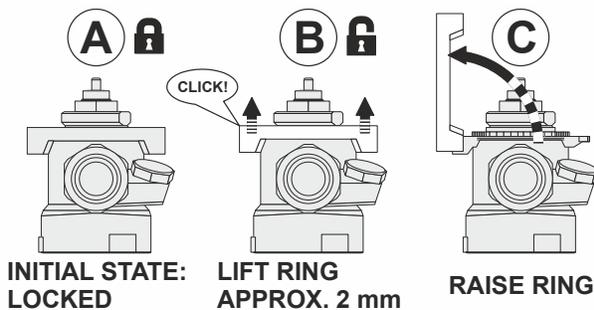

Fig. 4. Unlocking the presetting ring
2. Unlock the presetting ring (see also Fig. 4 below).